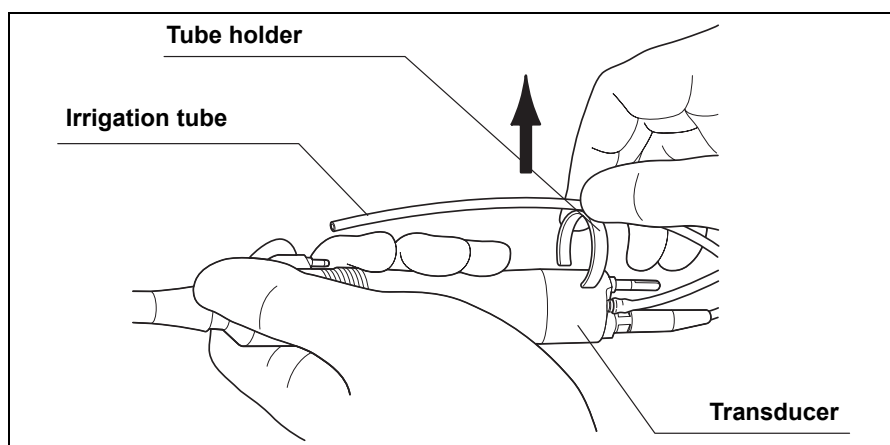

Figure 7.4
3. Detach the tube holder from the transducer (see Figure 7.4).